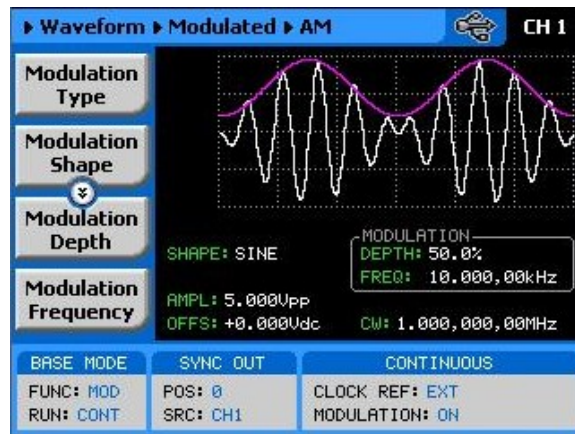

Figure 3-23, AM Menus
The AM function enables amplitude modulation of a carrier waveform (CW). The carrier waveform is sinewave and it is being modulated by an internal waveform, normally referred to as envelop waveform. The envelop waveform can be selected from sine, triangle square or ramp shapes. When AM is selected, the menus that are associated with AM will be accessible. These are shown in Figure 3-23.